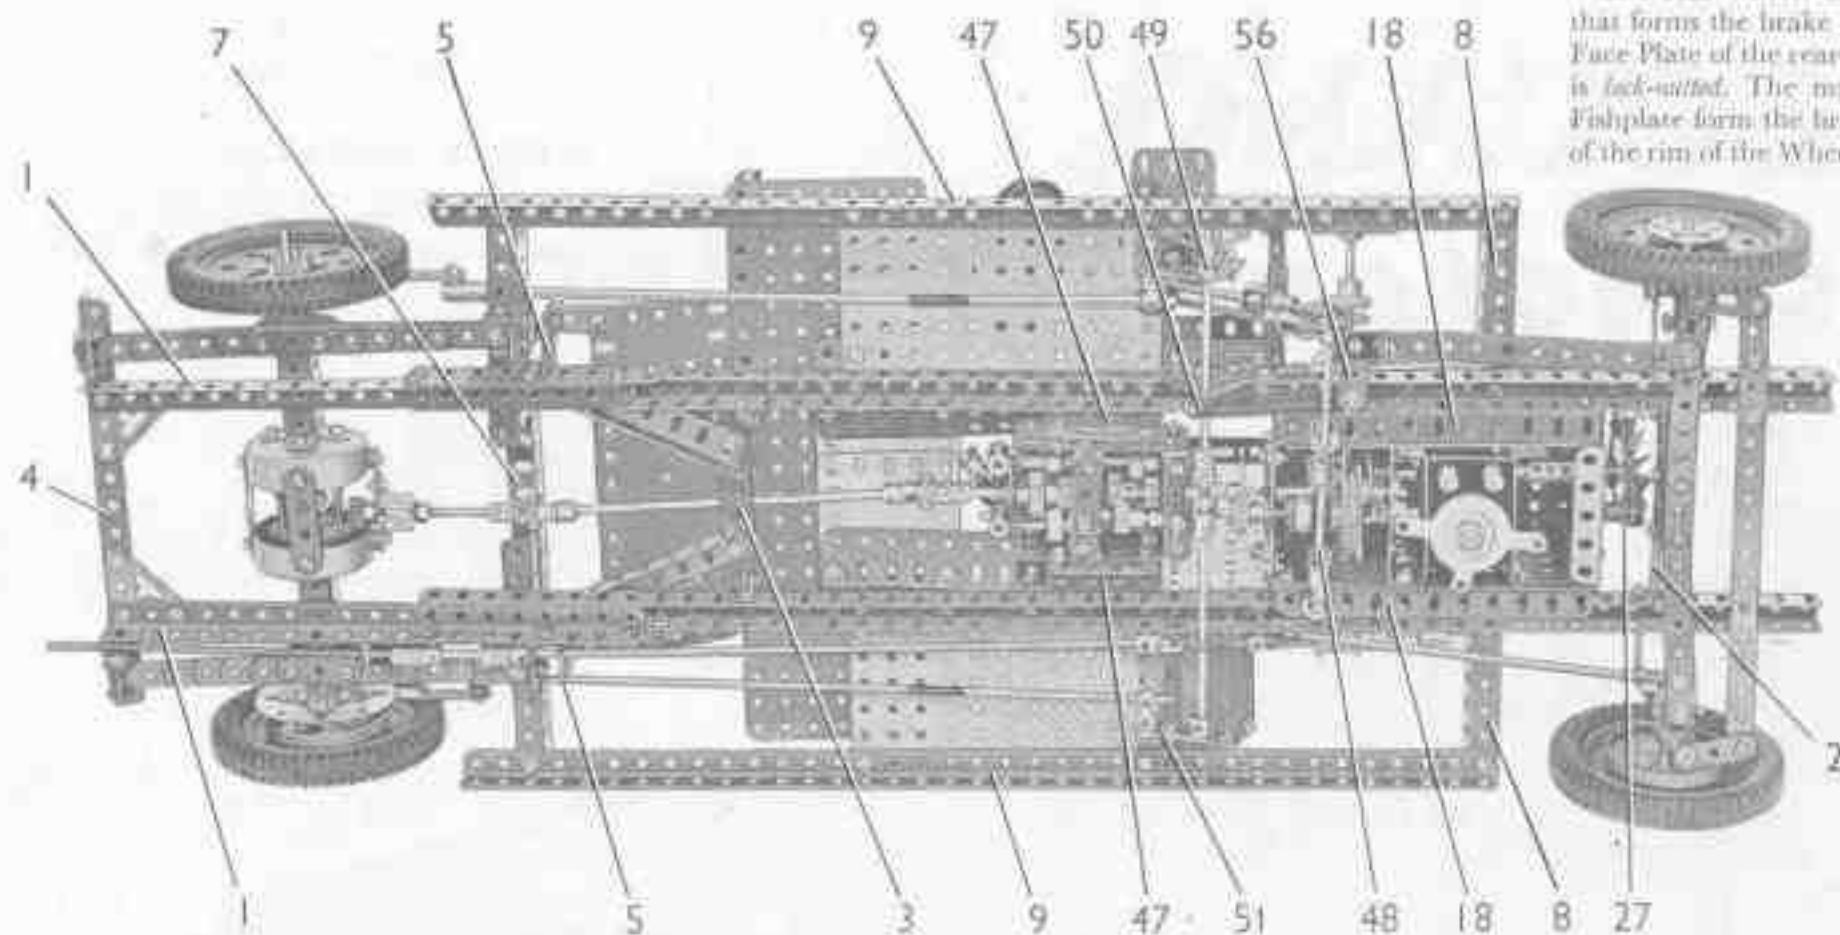
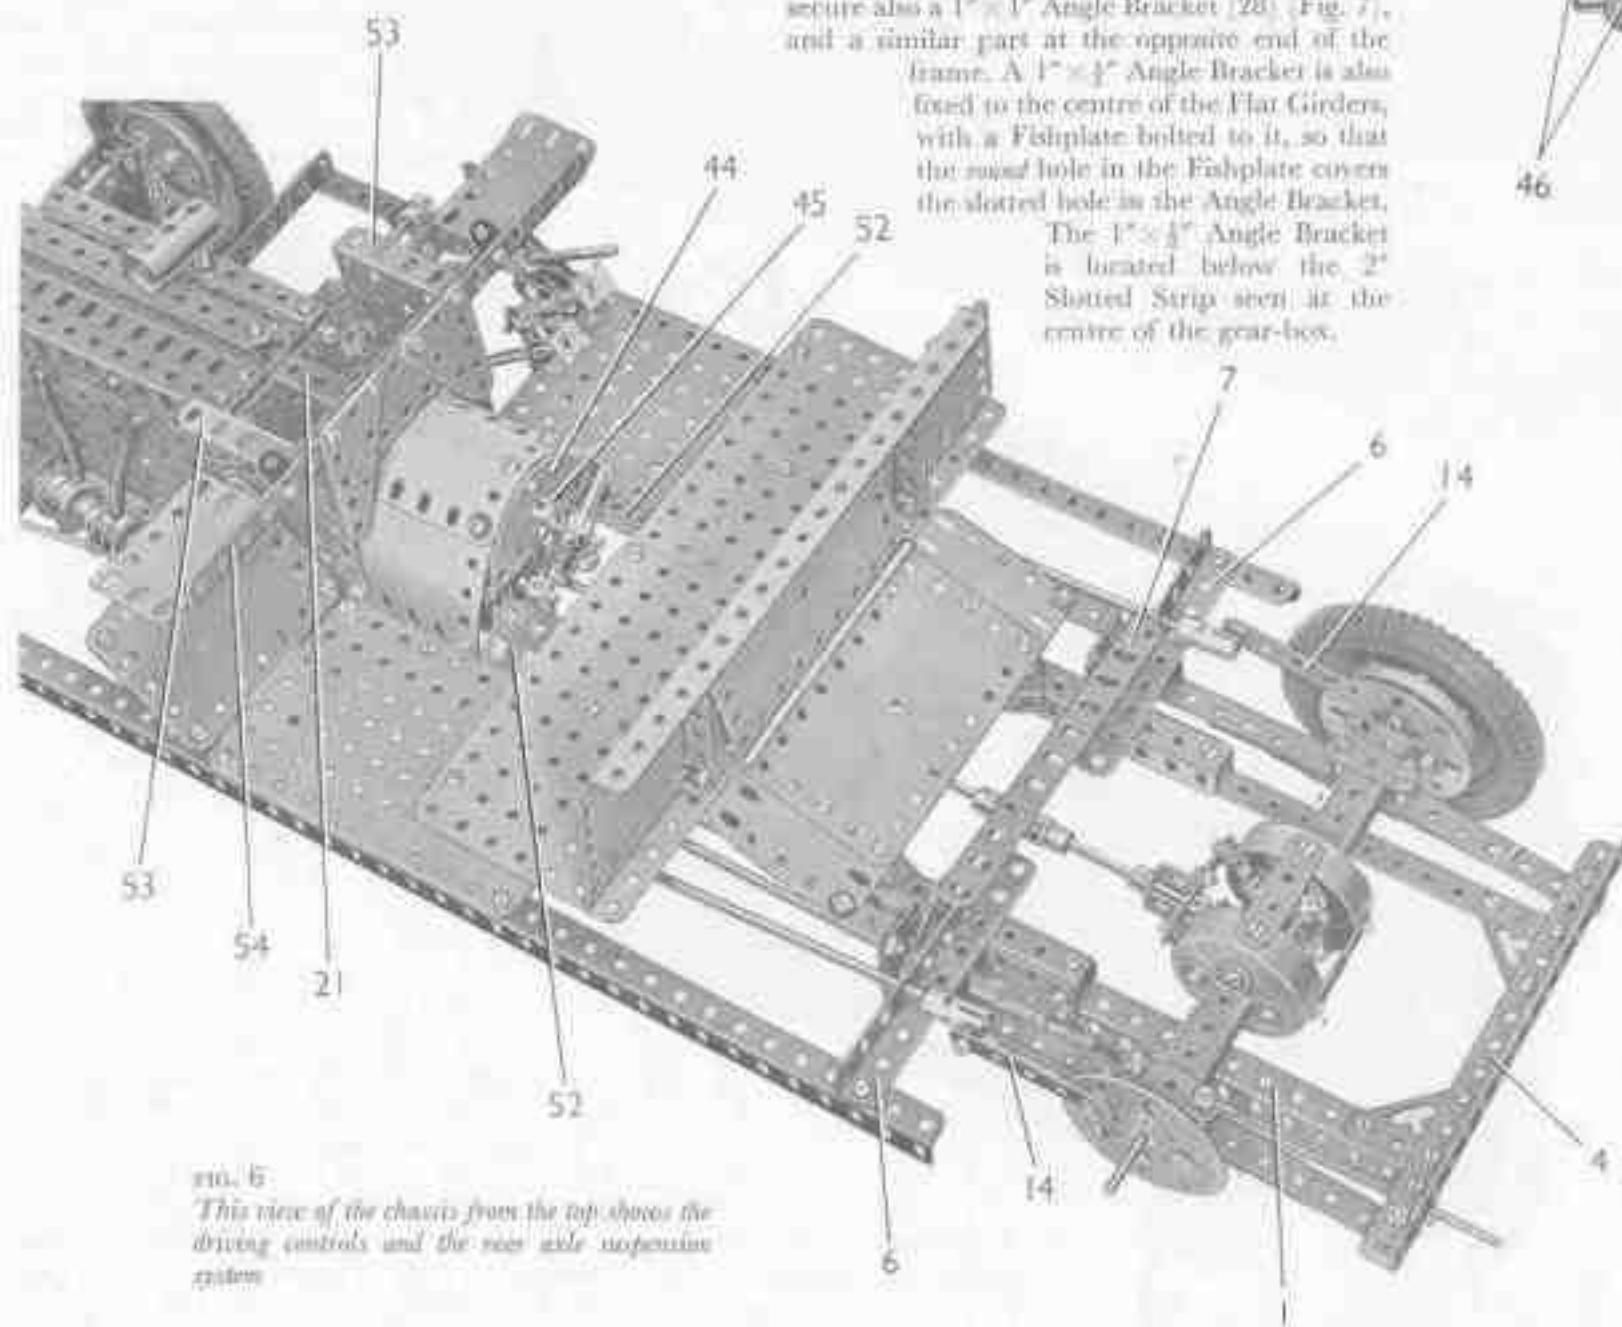

FIG. 2
FIG. 6
**Construction of the Model: Details of the Chassis (Figs. 2 and 4)**
A Channel Bearing (5) is bolted to each side of the chassis, and to it is fixed a  $4\frac{1}{2}$ " Angle Girder (6) fitted with a  $1\frac{1}{2}$ " Corner Bracket. The Corner Brackets are connected by a  $5\frac{1}{2}$ " Angle Girder (7) (Fig. 6). A  $3\frac{1}{2}$ " Angle Girder (8) is fixed to each side of the chassis, and  $18\frac{1}{2}$ " Angle Girders (9) are bolted to the ends of the Girders (6) and (8). A  $5\frac{1}{2}$ " x  $3\frac{1}{2}$ " Flat Plate is bolted between the chassis member and the Girder (9) on each side (see Fig. 2).
The rear wheels are 3" Pulleys, in each of which a Wheel Flange that forms the brake drum is bolted. A Fishplate is lock-witted to each Face Plate of the rear axle, and to the Fishplate a  $2\frac{1}{2}$ " Strip (14) (Fig. 6) is lock-witted. The nuts on the bolt that connects the Strip and the Fishplate form the brake shoe, and can be pulled against the inner side of the rim of the Wheel Flange by means of the Strip (14).
Each of the rear springs is formed by a  $7\frac{1}{2}$ ", a  $5\frac{1}{2}$ ", a  $4\frac{1}{2}$ ", a  $3\frac{1}{2}$ ", a  $2\frac{1}{2}$ " and a  $1\frac{1}{2}$ " Strip connected by two  $1\frac{1}{2}$ " Bolts. The Bolts pass on each side of the axle casing, through three  $1\frac{1}{2}$ " Strips placed face to face. Nuts on the Bolts clamp the  $1\frac{1}{2}$ " Strips and the axle casing securely to the spring (see Fig. 6).
are bolted flanges upward, and to one of them a  $3\frac{1}{2}$ " Strip is attached by Angle Brackets. A  $4\frac{1}{2}$ "  $\times$   $1\frac{1}{2}$ " Double Angle Strip (21) (Fig. 6) is fixed to the rear of the unit, and a  $2\frac{1}{2}$ "  $\times$   $1\frac{1}{2}$ " Flanged Plate (22) is bolted between the sides.
The sparking plugs are  $\frac{1}{2}$ " Bolts, that are connected to a Chummy Adapter by four lengths of Spring Cord. The exhaust pipe consists of two Springs bolted to the housing and clamped at their lower ends between  $\frac{1}{2}$ " Flanged Wheels on a  $3\frac{1}{2}$ " Screwed Rod. One end of the Screwed Rod is fixed in one of the Girders (8) (Fig. 2), and to the other a Flexible Coupling Unit is attached by a Threaded Coupling. The Flexible Coupling Unit is joined by a Coupling to an  $1\frac{1}{2}$ " Rod that passes through one of the Channel Bearings (5). This Rod carries two Worms, in one of which is held an Adapter for Screwed Rods that supports a 6" Screwed Rod. The rear end of the Screwed Rod is fixed in an Angle Bracket bolted to the Girder 4.
A  $1" \times 1"$  Angle Bracket is bolted to the top at the rear end of the gear-box frame, and a Threaded Pin is passed through this Angle Bracket and through a Semi-Circular Plate (44) (Fig. 6). A Swivel Bearing (45) is fixed on the Threaded Pin, and in it is held a  $2\frac{1}{2}"$  Rod that forms the gear lever. A Coupling, to which two Fishplates (46) are attached by bolts, is fixed to the lower end of the  $2\frac{1}{2}"$  Rod. The Fishplates are arranged one on each side of bolts screwed into the Couplings (43). The movement of each selector shaft is restrained by a  $\frac{1}{2}"$  Bolt held in the top of the gear-box frame by two nuts. The shank of this Bolt presses lightly against the selector shaft.
The gear-box is connected by  $\frac{1}{2}"$  Bolts to Girder Brackets (47) bolted to the chassis (Fig. 2). The sides of the gear-box are spaced from the Girder Brackets by a nut on each bolt. A 37-tooth Gear on the input shaft is driven by a  $\frac{1}{2}"$  Pinion on the Rod (25), and the drive to the rear axle is carried by a  $6\frac{1}{2}"$  Rod and two Universal Couplings.
**Clutch and Brake Mechanisms (Figs. 2, 5 and 8)**
The brake pedal is a Slide Piece on a 2" Rod, which is mounted in an Obtuse Angle Bracket bolted to a  $1"$  Triangular Plate fixed to the  $5\frac{1}{2}" \times 3\frac{1}{2}"$  Flat Plate. Two Compression Springs are placed on the Rod between the Slide Piece and the Obtuse Angle Bracket. An End Bearing on the lower end of the 2" Rod is lock-walwed to a Bell Crank (49) (Fig. 2) on a built-up axle. This axle consists of two  $\frac{3}{4}"$  Rods, each of which carries a small Fork Piece, and the Fork Pieces are bolted together by their lugs. The axle is supported in Flat Trunnions bolted to the chassis, and in a  $1\frac{1}{2}"$  Strip fixed to a Trunnion attached to one of the Girders (9). The axle is held
in place by a Collar, and in addition to the Bell Crank (49) it carries half of a Dog Clutch (50) and a 2" Strip (51) bolted to a Double Arm Crank. Handrail Couplings are pivoted on bolts passed through the Bell Crank and the Strip (51), and each Handrail Coupling is connected by a built-up rod to a Strip Coupling that pivots on a bolt in one of the Strips (14) (Fig. 6). The built-up rods are each made from a 4" and an 8" Rod joined by a Rod Connector. A Spring is attached by a bolt to the half of the Dog Clutch (50), and is looped over the clutch shaft (48).
**Gear-Box Cover, Dashboard and Front Seat (Fig. 6)**
A Hinged Flat Plate is bolted behind the front seat, and its horizontal half is extended on each side by a  $2\frac{1}{2}'' \times 1\frac{1}{2}''$  Flexible Plate. These plates are connected to the Channel Bearings (5) (Fig. 2) by  $1'' \times 1''$  Angle Brackets.
The steering column is a  $6\frac{1}{2}''$  Rod that is supported in an Angle Bracket bolted to Girder (54) (Fig. 6) and in a Double Bent Strip and a Double Arm Crank fixed to a  $3'' \times 1\frac{1}{2}''$  Double Angle Strip. The Double Angle Strip is bolted to one of the Flanged Plates (53) and to a Corner Gusset supported by a  $2''$  Angle Girder fixed to one of the Girders (9).